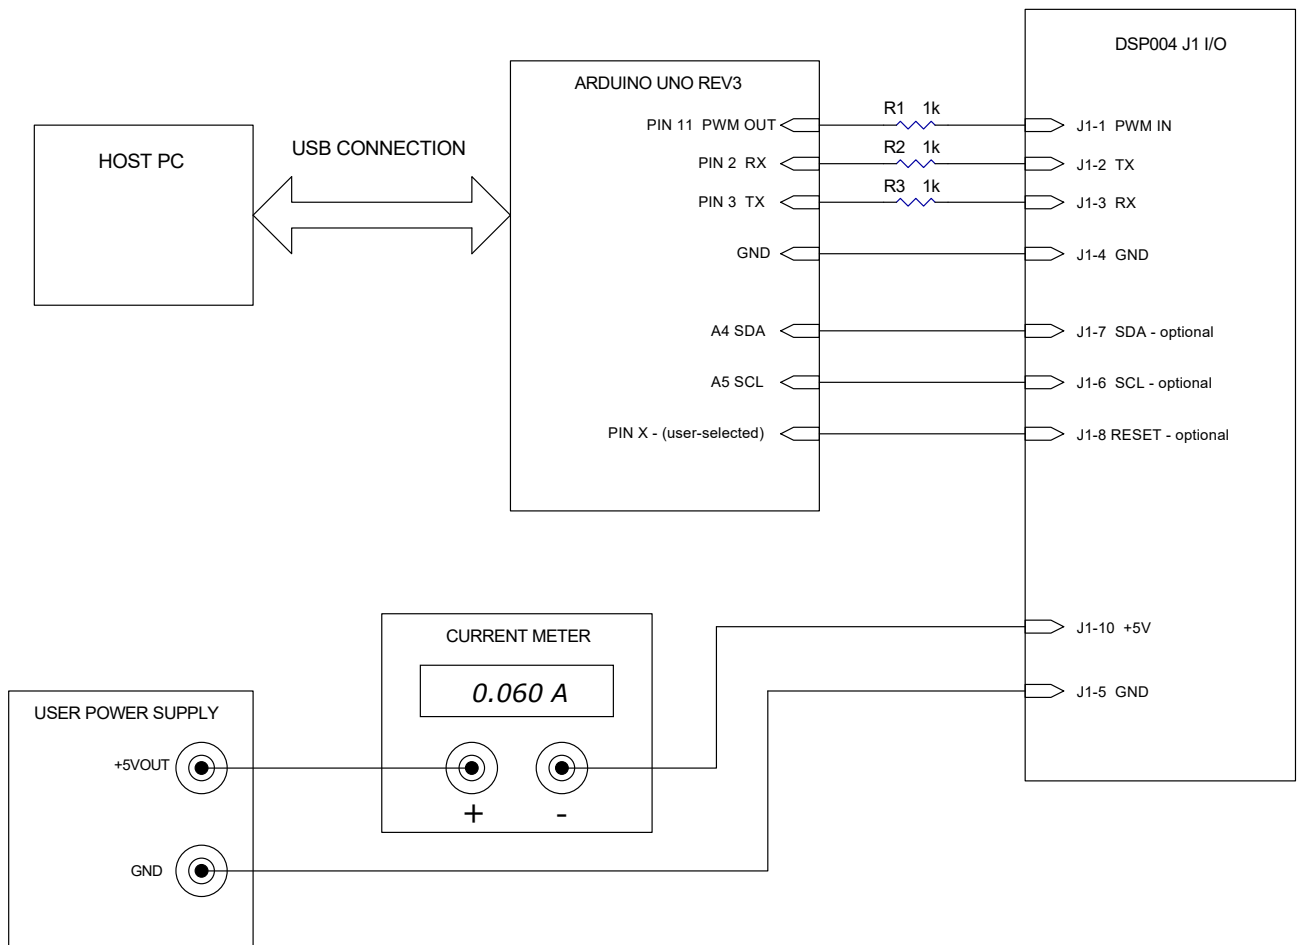

FIGURE 1.1 – DEVELOPMENT SETUP SHOWING POWER, SIGNAL AND COMPUTER CONNECTIONS
- Install a **1 kΩ series resistor** on the RX, TX, and PWM lines to limit leakage current, as depicted in Fig. 1.1.
1. The display Rx, Tx and GND should be connected as outlined in Fig.1.1, the USB cable should still be connected to the Arduino, the Arduino should still be running the “Terminal Bridge” sketch, and the display should be powered on. Ensure the “CONFIG” switch on the back of the display is in the “NORM” position.
2. The display Rx, Tx and GND should be connected as outlined in Fig. 1.1, the USB cable should still be connected to the Arduino, the Arduino should still be running the “Terminal Bridge” sketch, and the display should be powered on. Ensure the “CONFIG” switch on the back of the display is in the “NORM” position.